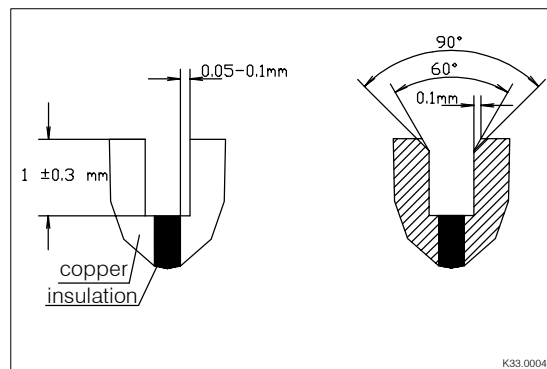

Fig. 5: Milling of the bar insulation at the collector
2. If necessary, remove insulation between the collector bars as shown in figure 5: